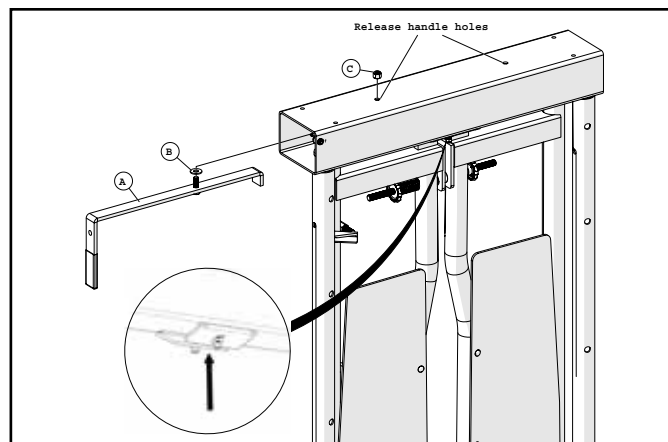

Figure 1: Installing the release handle
1. The Automatic Headgate comes with the release handle (a) uninstalled (Figure 1).
3. To install the handle (a), place 1/2" flat washer (b) over the threaded stud and insert the stud through one of the release handle holes as shown (Figure 1).
4. Secure the handle by threading a 1/2" steel lock nut (c) onto the stud as shown (Figure 1). Be sure to keep the nut loose enough to allow the handle to rotate properly.
5. You may have to press the door latch trippers up as shown (Figure 1) to slide the handle between them.